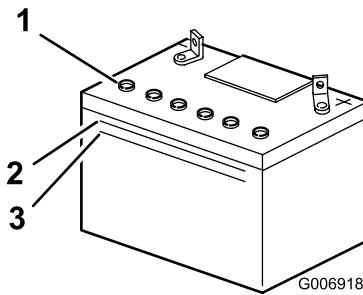

Figure 25
2. Look at the side of the battery. The electrolyte should be up to the Upper line (Figure 25).
**Note:** Do not allow the electrolyte to fall below the Lower line (Figure 25).
3. Remove the vent caps from the battery (Figure 25).
4. Slowly pour distilled water into each battery cell until the electrolyte level is up to the Upper line (Figure 25) on the battery case.
level is up to the Upper line (Figure 25) on the battery case.